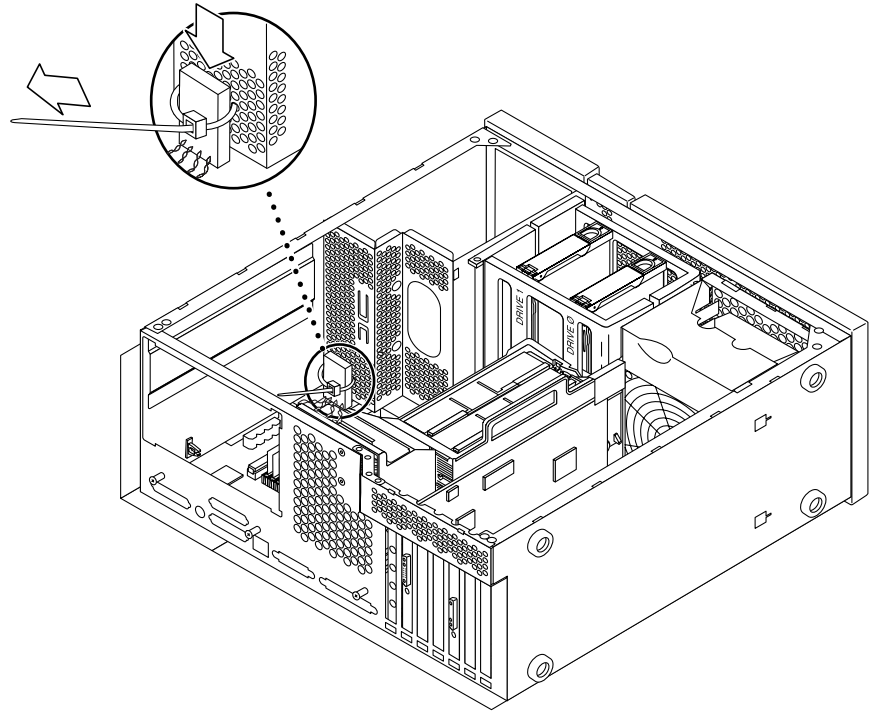

FIGURE 1-5 Attaching the Voltage Regulator
3. Attach the voltage regulator, as shown in FIGURE 1-5.